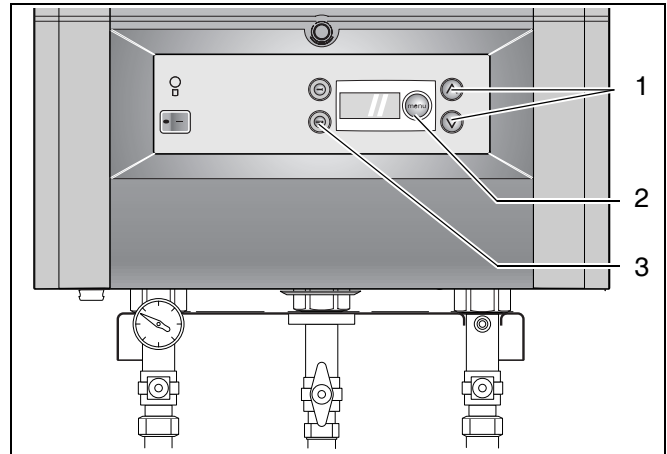

fig. 6 DBA – control panel
- Press E button (see fig. 6, item 2) once then adjust the DHW temperature to the desired temperature (40 °C - 60 °C) using the C and D keys (see fig. 6, item 1).
- Press the E button (see fig. 6, item 2) twice.
- Press E button (see fig. 6, item 2) three times then adjust the flow temperature to the desired temperature (30 °C – 80 °C) using the C and D keys (see fig. 6, item 1).